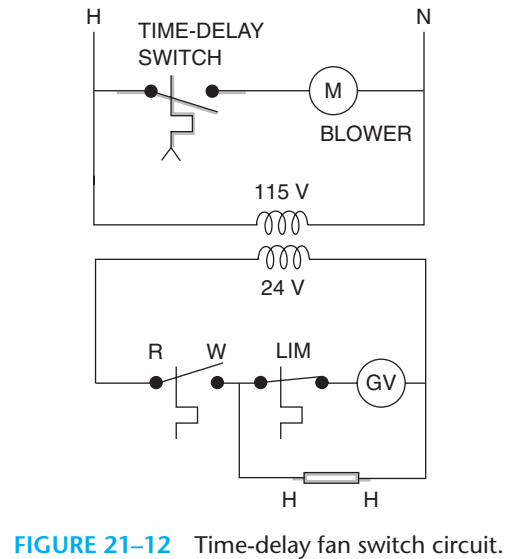
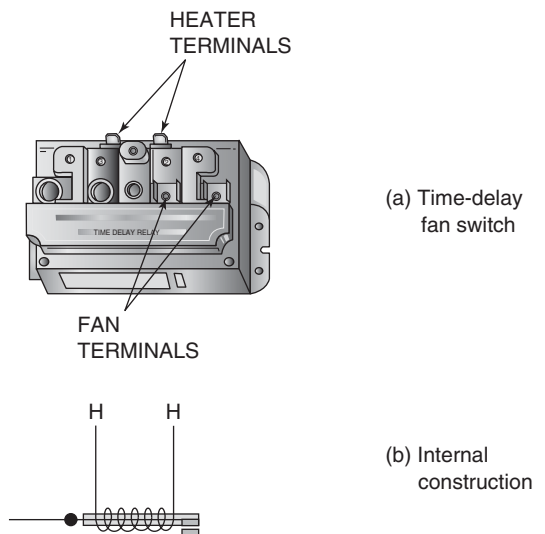

FIGURE 21-12 Time-delay fan switch circuit.
FIGURE 21-13 Time-delay fan switch. (a) Time-delay fan switch. (b) Internal construction.
The circuit shown in Figure 21-12 shows another way that the operation of the blower motor is controlled. It uses a **time-delay fan switch** (Figure 21-13). This device contains a bimetal switch and a 24-volt heater. The bimetal is wrapped with **Ni-chrome** wire. Nichrome is a material that has a significant resistance, and when a current is passed through it, it heats up because of the $I \times R$ drop. There is no electrical connection between the heater wire and the switch. Note that the ladder diagram in Figure 21-12 shows the heater and the switch in
completely different parts of the diagram, even though they are contained within the same device (Figure 21-12). Remember, the ladder diagram does not attempt to show you any of the physical relationships of the locations of electrical devices.
6. What customer complaint might you expect if the heater in Figure 21-12 were to open?
7. What is the purpose of the time delay switch in Figure 21-12?